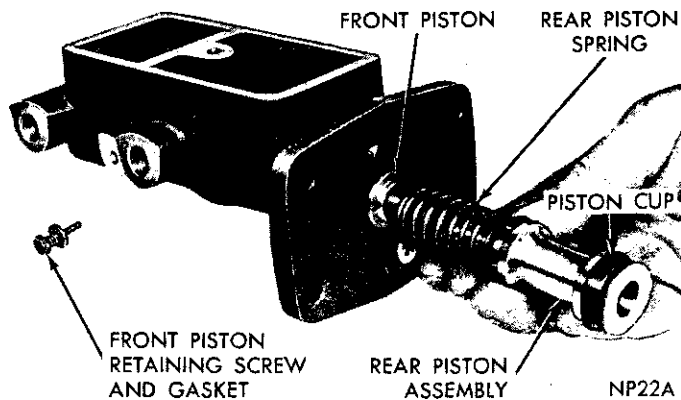

Fig. 6—Installing Rear Piston Assembly
(2) Center spring retainer of rear piston assembly over shoulder of front piston. Push piston assemblies into bore up to center piston cup. Carefully work cup into bore then push piston in up to the rear cup. Carefully work lip of rear cup into bore, then push in on piston until seated (Fig. 6).
(3) Holding piston in seated position, move piston